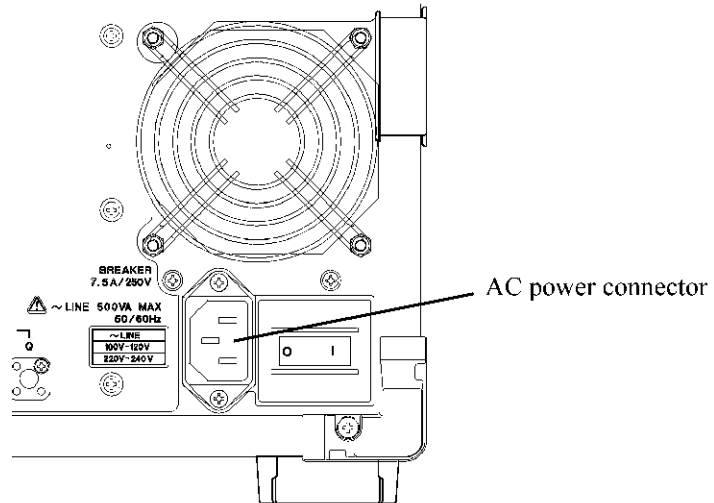

Figure 3-6 Connecting the Power Cable
2. Plug one end of the power cable included with this instrument into the AC power connector on this instrument rear panel and the other into a three-pin power outlet that has a ground pin (see Figure 3-6).